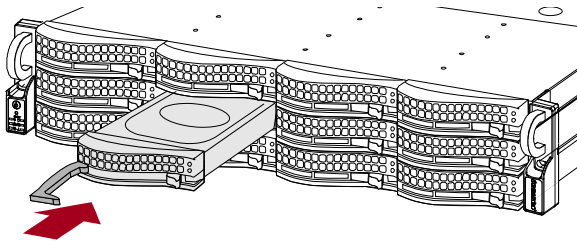

Figure 13. Inserting Drive Carriers
4. With the button on the right, position the **drive assembly** in front of the appropriate **bay** and slide it in (Figure 13) until resistance is felt.